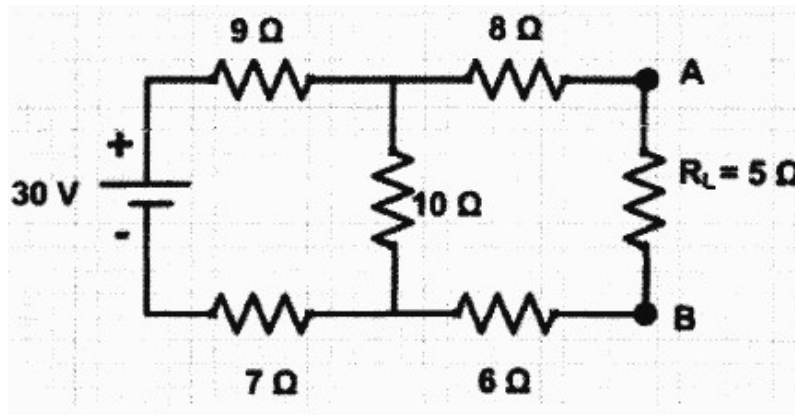

Fig.1
- State and explain Norton's theorem. Using Norton's theorem, determine the current flowing through the load resistance (R_L) in Figure 1.